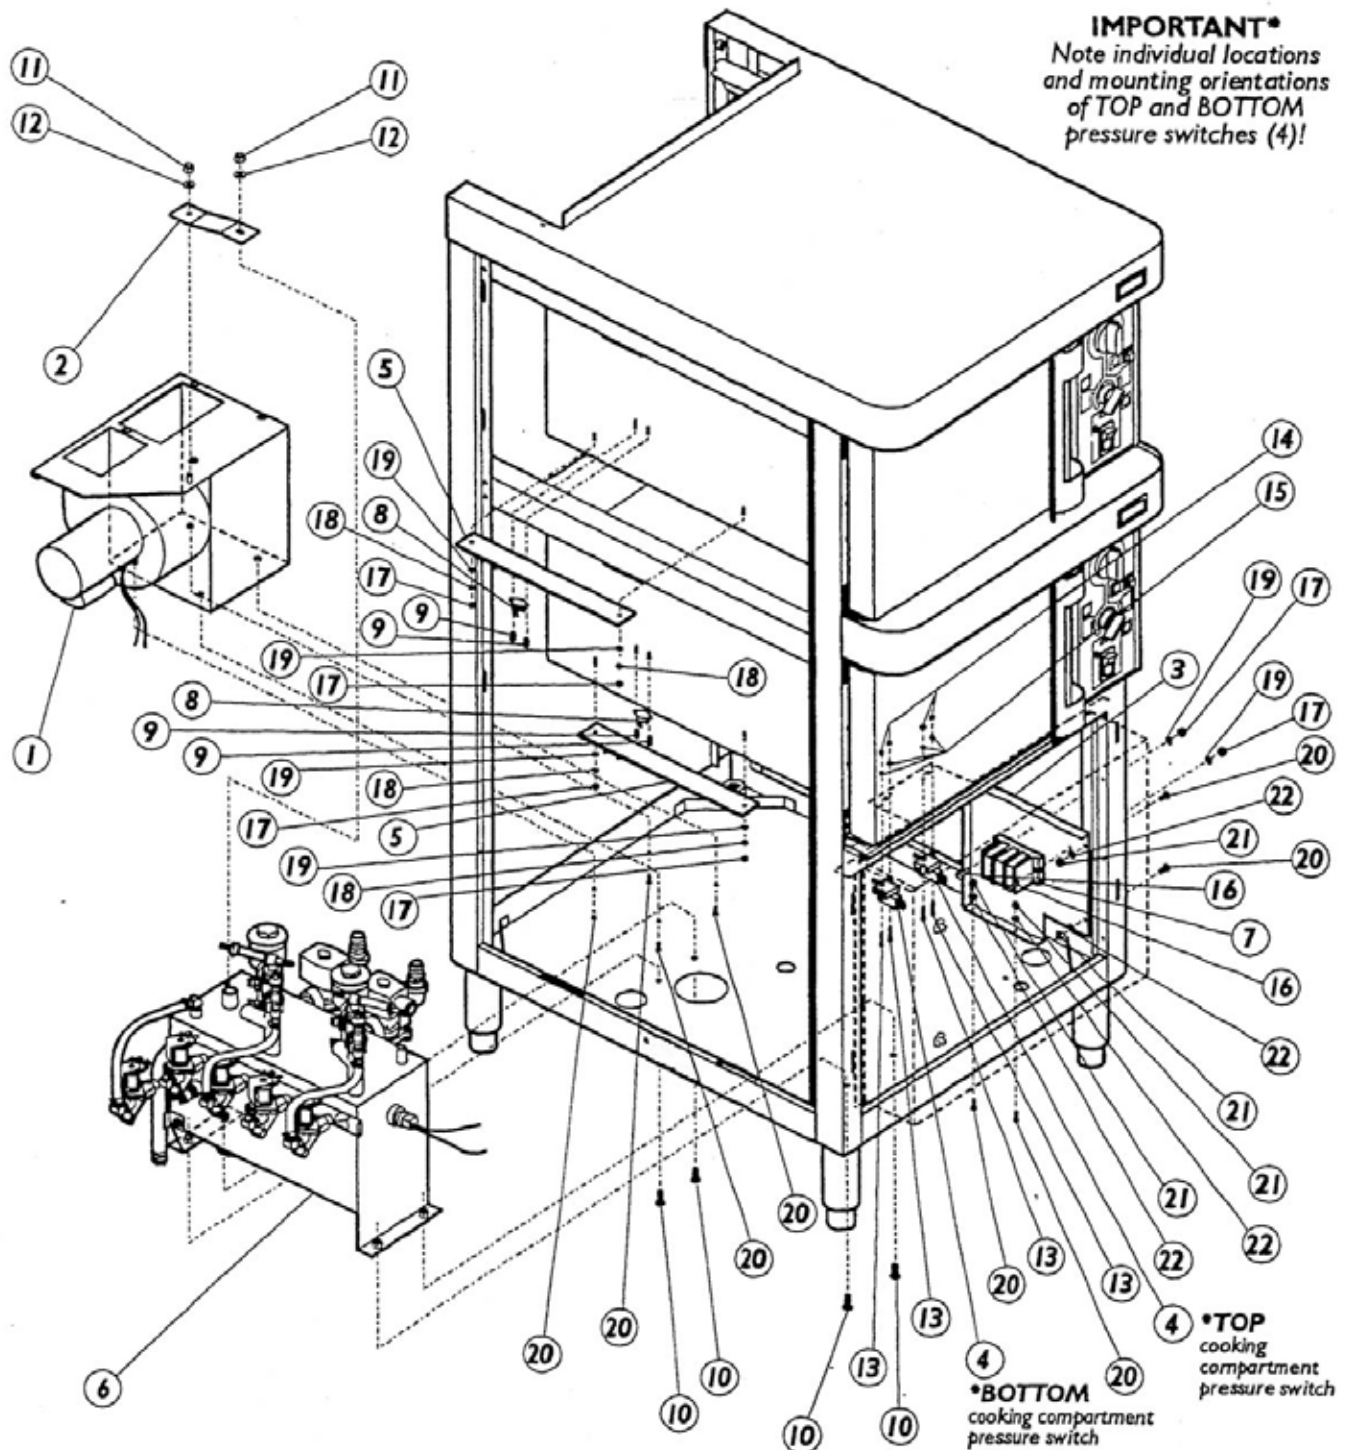

FIGURE 6.13 CHASSIS ASSEMBLY
***IMPORTANT:** NOTE THE INDIVIDUAL LOCATIONS OF EACH PRESSURE SWITCH! (SEE FIG. 6.13 ON PAGE 6.17)